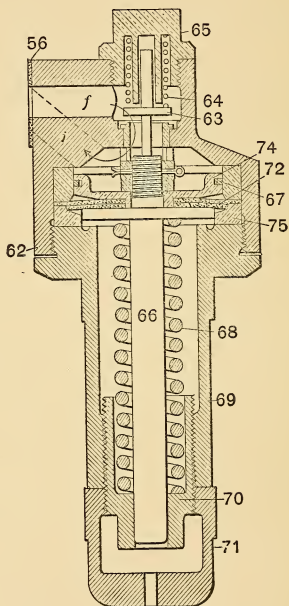

FIG. 14.—FEED VALVE OR TRAIN-LINE GOVERNOR.
A. The spring 68 (Fig. 14) supports piston 74, and the piston holds the valve 63 from its seat. As long as the air pressure on top of the piston is less than the tension of the spring 68, valve 63 is held from its seat, and main reservoir pressure coming in through port *f* feeds into port *i* as indicated by the arrow, and on into the train line. When the pressure above the piston is greater than the tension of the spring 68, the piston is forced down, allowing valve 63 to seat.
A. (1) Dirt or scale on the seat of the valve 63 (Fig. 14).
(2) Spring 68 being screwed up too stiff.
(3) A leak between the holes of the gasket 56 where the governor is bolted to the body of the engineer's valve.
(4) The lower body of the governor 69 being screwed up too tight.
A. (1) Dirt or scale would not allow valve 63 to seat.